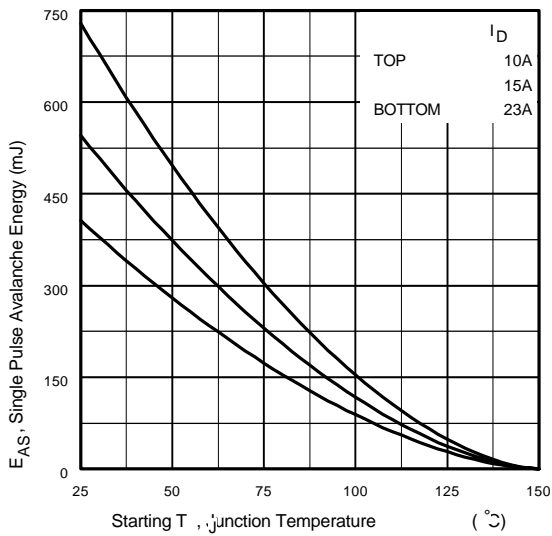

Fig 12a. Maximum Avalanche Energy Vs. Drain Current
- ② Starting $T_J = 25^\circ\text{C}$, $L = 1.5\text{mH}$, $R_G = 25\Omega$, $I_{AS} = 23A$, $dv/dt = 14V/ns$ (See Figure 12a)
- ③ $I_{SD} \leq 23A$, $di/dt \leq 430A/\mu s$, $V_{DD} \leq V_{(BR)DSS}$, $T_J \leq 150^\circ\text{C}$
- ④ Pulse width $\leq 300\mu s$; duty cycle $\leq 2\%$.
- ⑤ $C_{oss\ eff.}$ is a fixed capacitance that gives the same charging time as C_{oss} while V_{DS} is rising from 0 to 80% V_{DSS}